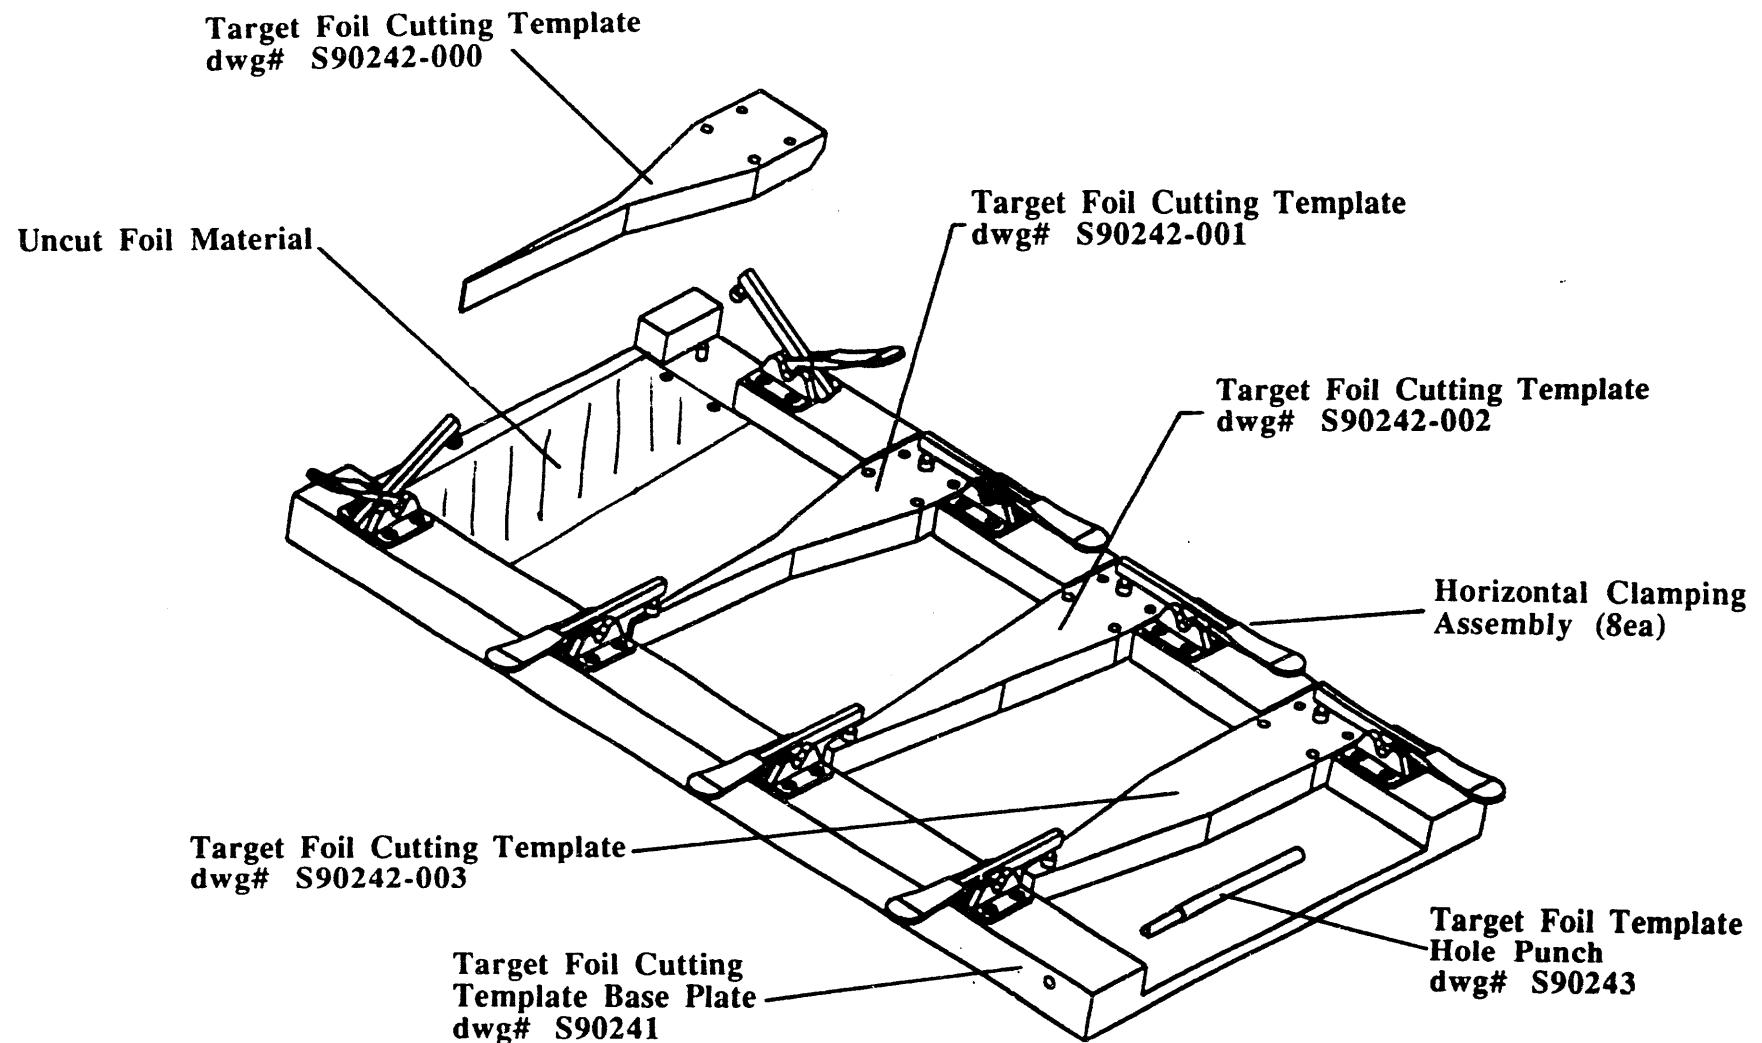

Figure 16: Target Foil Template Cutting Assembly
4. Release the two (2) horizontal handle clamps securing the cutting template to the Target Foil Cutting Template Base Plate, dwg# 3A3338.
8. Position the foil as shown in figure 16.
13. Insert the Target Foil Template Hole Punch, dwg# 3A3340, in the two (2) holes on the Target Foil Cutting Template.
14. Release the two (2) horizontal handle clamps securing the Target Foil Cutting Template to the Target Foil Cutting Template Base Plate.